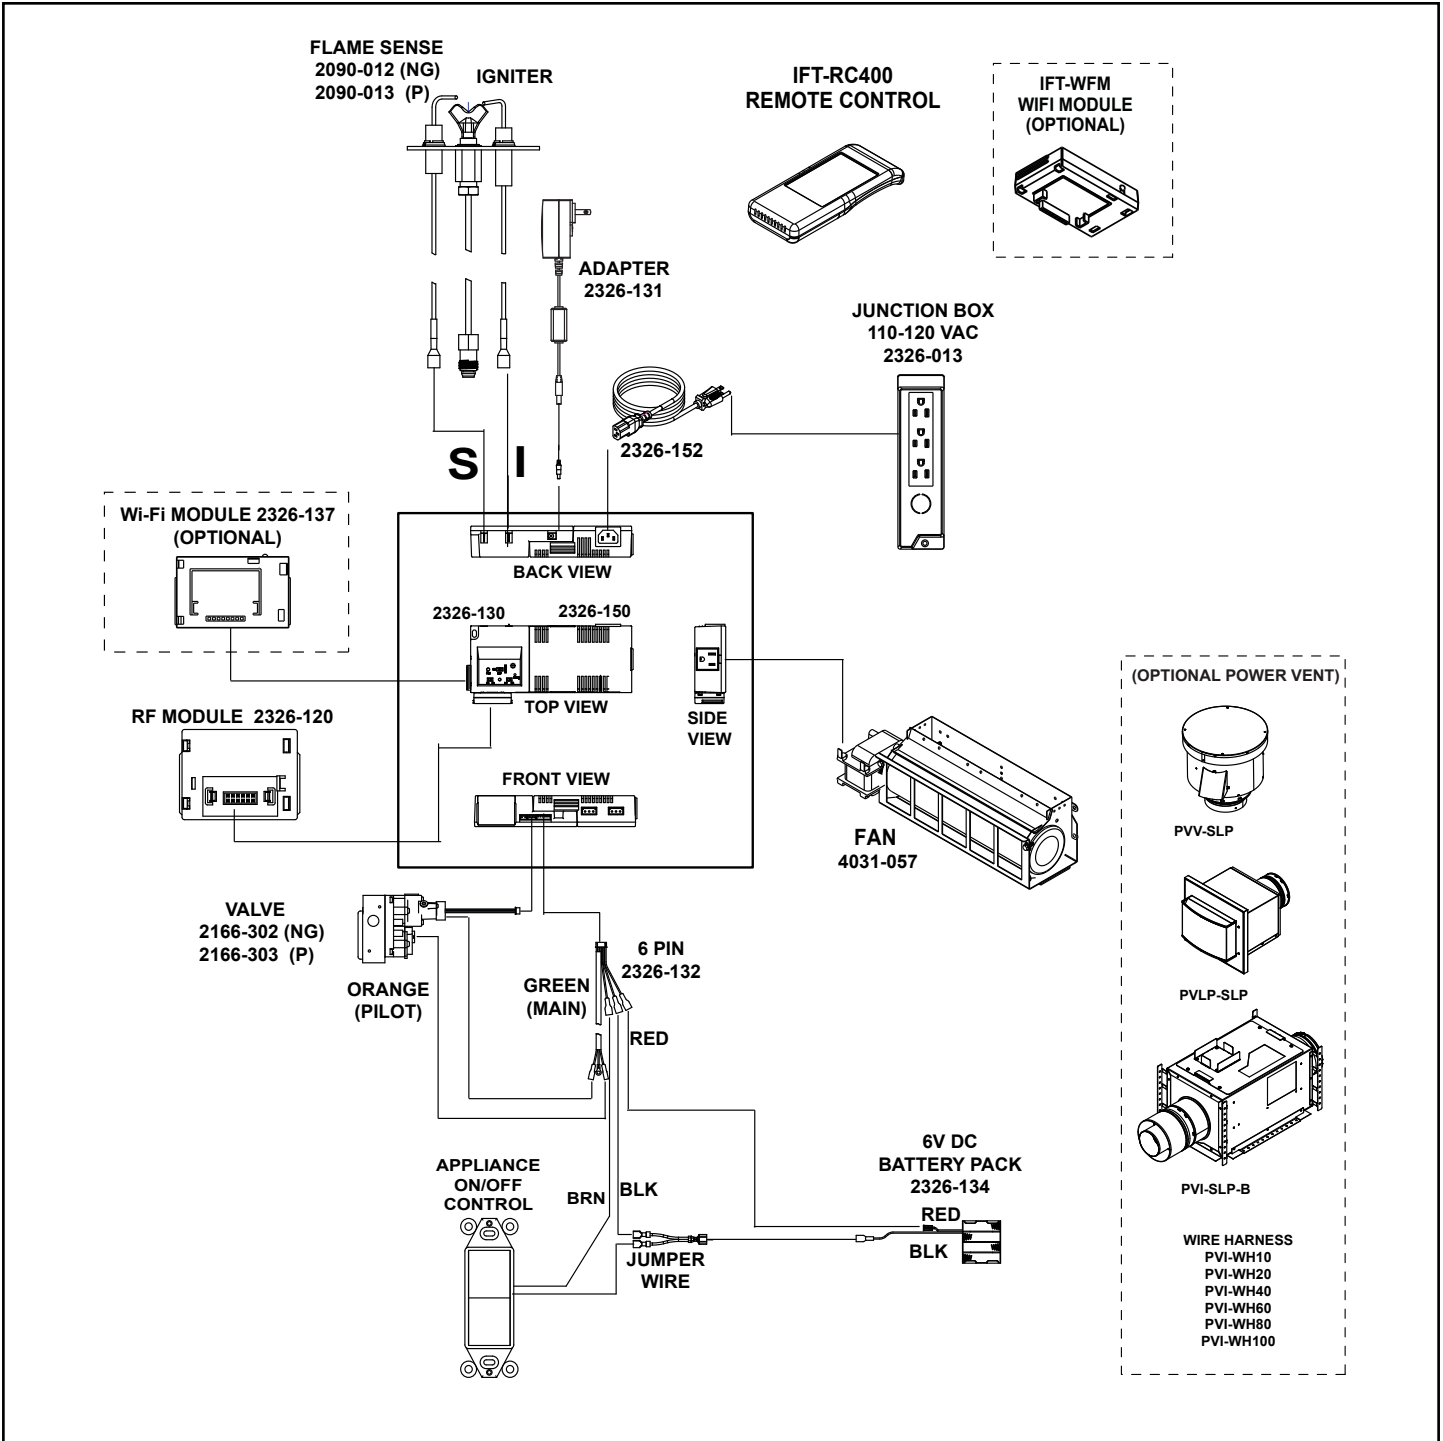

Figure 8.2 IntelliFire Touch Wiring Diagram
- Refer to Figure 8.2 IntelliFire Touch (IPI) Wiring Diagram.